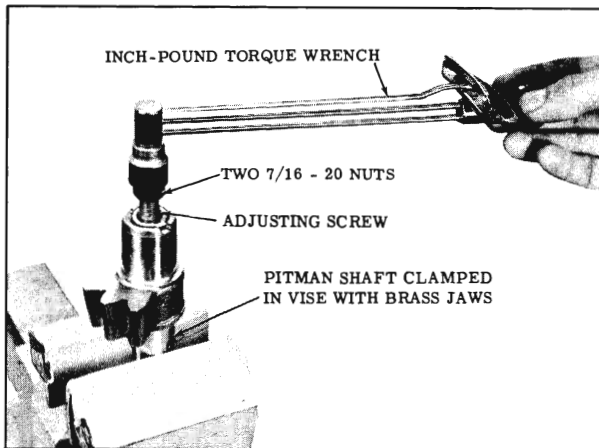

Fig. 4-57 Checking Adjusting Screw Torque
2. Using a 5/8" socket and an inch-pound torque wrench, measure the torque required to turn the adjusting screw. (Fig. 4-57) Torque reading should be 1 to 15 inch lbs.